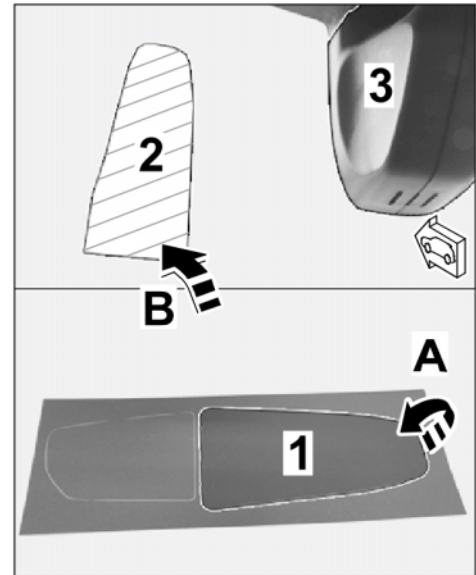

Figure 9
2.2.1 Pull 3M privacy film off the backing sheet (⇒ *Figure 9-A*).
2.2.2 Position 3M privacy film on the marked bonding surface on the windscreen (⇒ *Figure 9-B*) and stick it on.